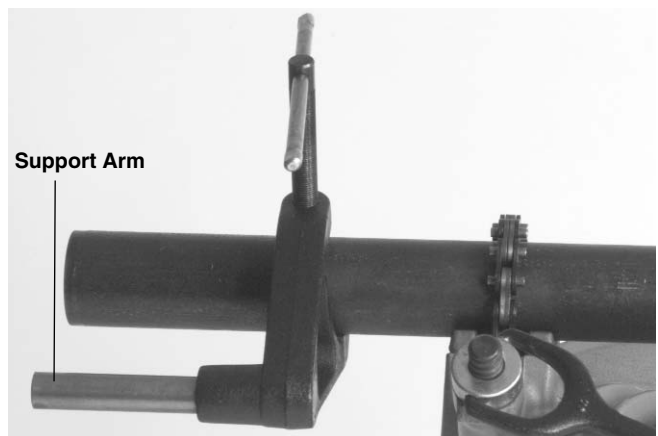

Figure 4 – Using No. 691 Support Arm When Threading 3/4" Pipe and Larger
4. Position No. 691 Support Arm on pipe so end of support arm is in line with end of the pipe (Figures 4 & 5). Make sure jaws squarely contact pipe and tighten handle firmly to prevent slipping of the jaws.